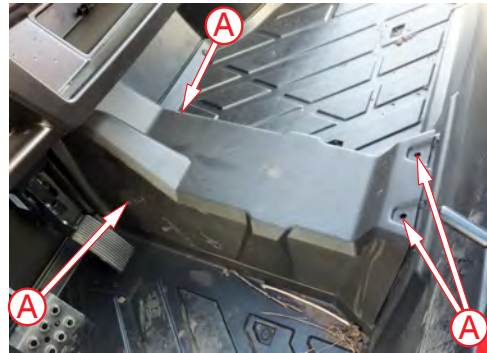
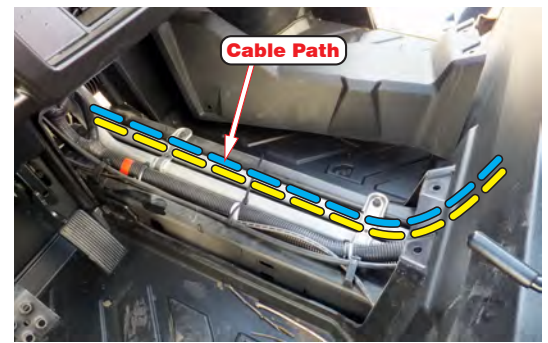

Figure 10.
Figure 11.
13. Remove plastic shroud covering center floor console by taking out the the 4 plastic rivets (A) shown in Figure 10. Route the longest wires (usually **BLUE & YELLOW**) included with your winch from the battery to the contactor location by passing through the opening to the battery compartment and through the front foot well as shown in Figure 11.